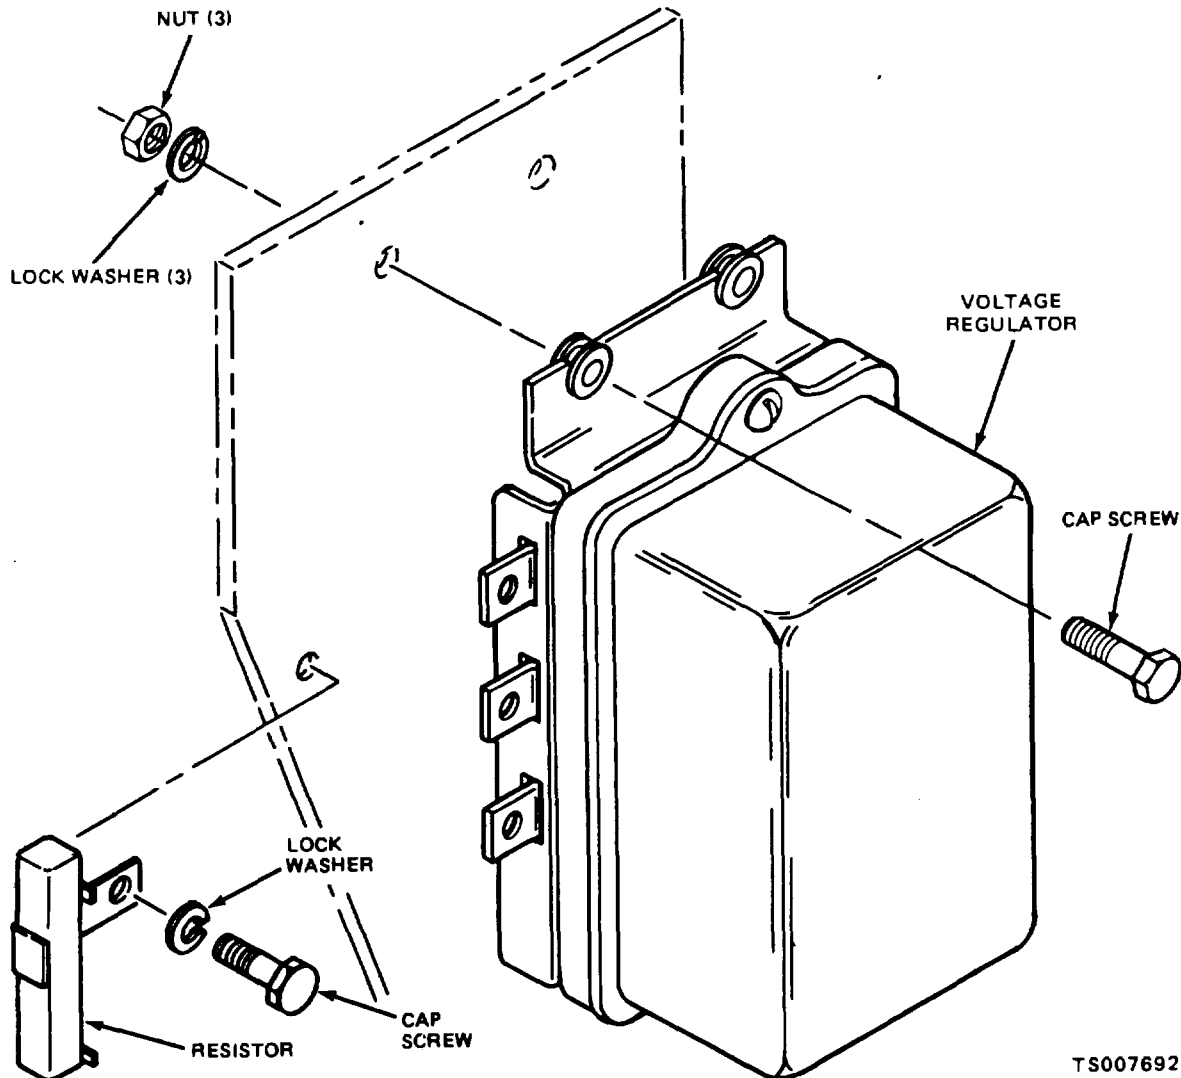

Figure 4-19. Voltage Regulator, Removal and Installation
(1) Tag and disconnect the leads to the voltage regulator.
(2) Remove the voltage regulator as shown in figure 4-19.
(1) Install the voltage regulator as shown in figure 4-19.
(2) Connect the electrical leads to the voltage regulator.